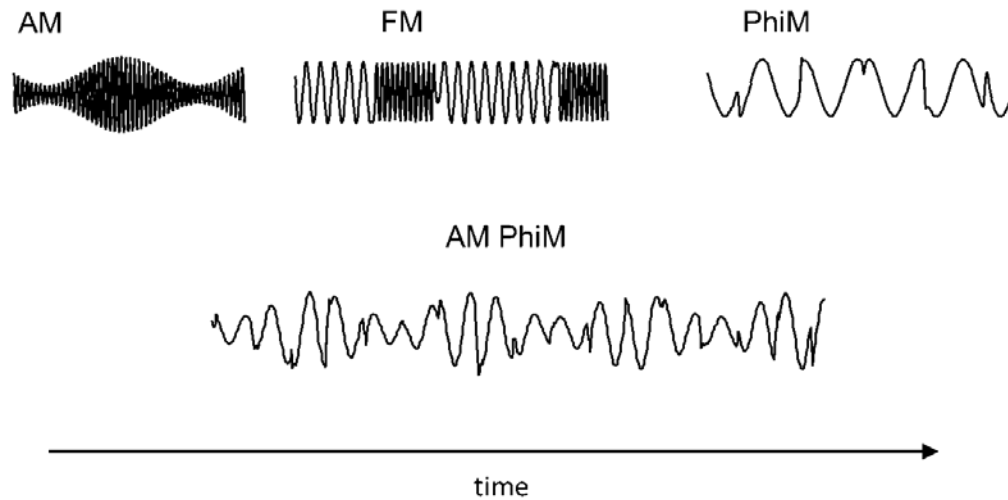

Figure 6: Basic types of analog modulation.
Modulation is achieved by changing the amplitude, the frequency, the phase or some combination of these three. The basic types of analog modulation include amplitude modulation, frequency modulation, and phase modulation (Figure 6). The Amplitude Modulation (AM) example shows a very fast varying sine wave and on top of which you can see an additional change in amplitude. This slower changing amplitude variation contains the information that is being sent over the carrier wave, which will be detected at the other end of the radio link.
Phase Modulation (PM) is more commonly used in data transmissions. The example in Figure 6 shows discrete changes in the signal as the phase changes. Common applications include cellular communications as well as wireless LAN (WLAN).